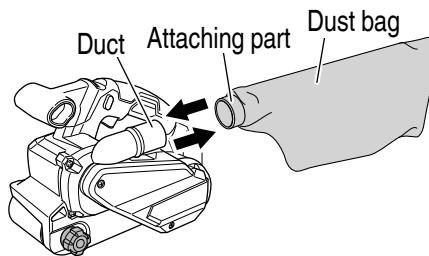

Fig. 10
5. Attaching and removing the dust bag (**Fig. 10**)